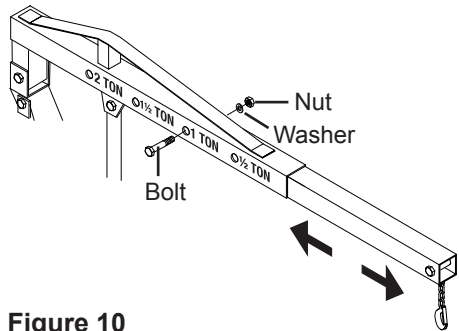

Figure 10
2. Adjust the Boom Extension so the hole furthest from the hook-end aligns with the chosen hole on the Boom. Secure into place by inserting the Bolt through all aligned holes and tightening in place with the Washer and Nut. See Figure 10 above.